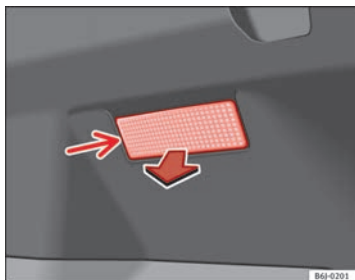

Fig. 176 Luggage compartment light
- Extract the tulip shaped fitting by pressing on the inside edge of this -arrow- using the flat side of a screwdriver ⇒ Fig. 176.